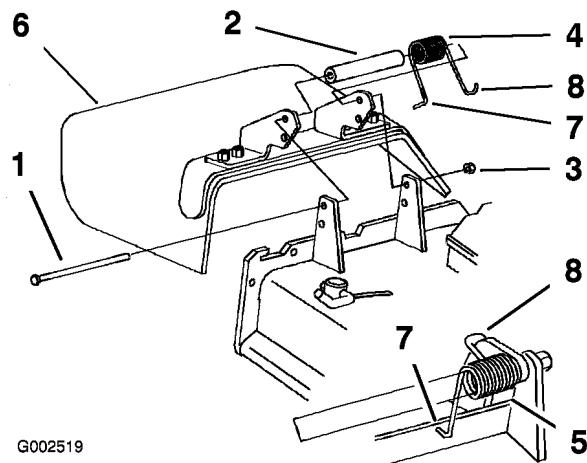

Figure 38
- Remove the locknut, bolt, spring and spacer holding the deflector to the pivot brackets (Figure 38).
- Note:** Make sure the L end of the spring is installed behind the deck edge before installing the bolt as shown in Figure 38
- Place the **J** hook end of the spring around the grass deflector (Figure 38).